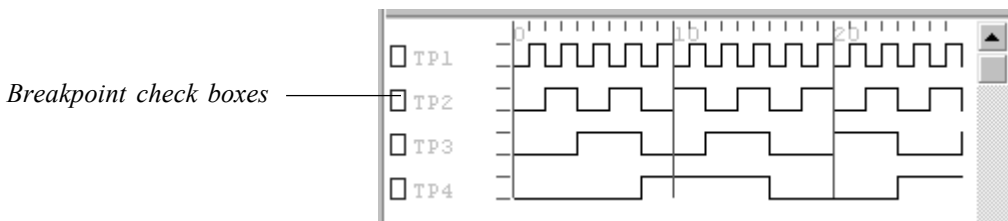

Figure 5.2. The digital waveforms window lets you graph the states of nodes over time as the simulation runs.
By attaching SCOPES [Instruments/Digital/SCOPE] (T) to points of interest in the circuit, you can graph the states of these nodes over time as the simulation runs. Click one of the **Tile Windows** buttons in the Toolbar to display or hide the digital waveforms window. An example of the waveforms window is shown in Figure 5.2.
Use the breakpoint check boxes in the digital waveforms window (see Figure 5.2) to set breakpoints in a circuit.